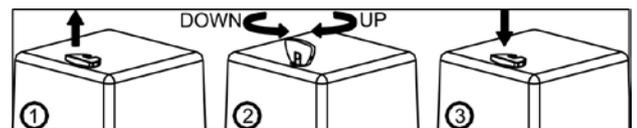

Fig.3
3. Give priority to vertical installation and remain enough room for screw off the actuator when repair the valve body. (See Fig.3)
4. Connect the wires according to the Wiring Diagram. (See Fig. 3)